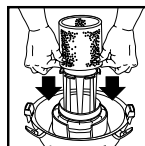

FIGURE 16
33. With tank cover in an upside down position, slide foam sleeve down over lid cage pulling until foam sleeve completely covers filter cage. **FIGURE 16.**